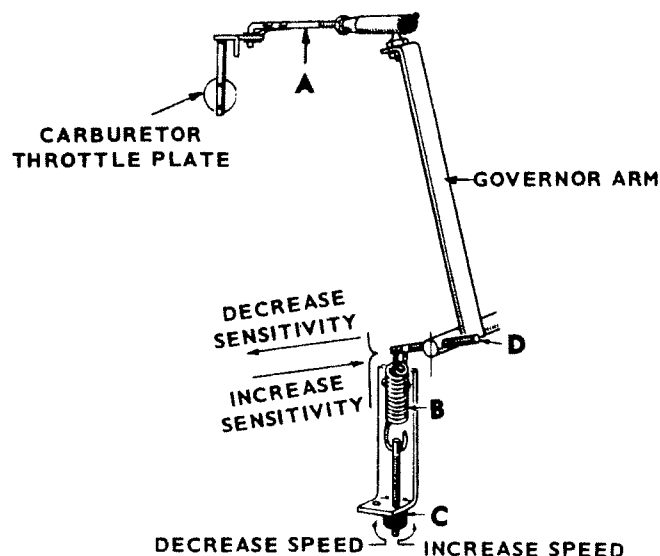

FIGURE 9. GOVERNOR ADJUSTMENT
With the set stopped, the length of linkage "A" must (with tension on spring "B") allow the carburetor throttle stop lever to just clear (maximum 1/32 inch) the carburetor body (Figure 9). Alter linkage length by turning the ball joint on the threaded rod. Run the set (under load) to thoroughly warm it up.
- 1. Alternating Current Set:** Connect a voltmeter across the generator output. With the set operating at no-load, adjust the speed nut "C" (Figure 9) for a voltmeter reading of 126 volts for 120 volt sets (252 volts for 240 volt sets). Voltage should not fall below 108 volts for a 120 volt set (216 volts for a 240 volt set) under full rated load.
3. **Battery Charging Set:** Turn speed nut "C" (Figure 9) to give the desired charge rate. Normal speed, as specified on the nameplate, is approximately 2400 rpm. If the charge rate tends to "taper off" too soon, turn the sensitivity screw "D" clockwise. If the charge rate is unsteady, turn the sensitivity screw "D" counterclockwise.